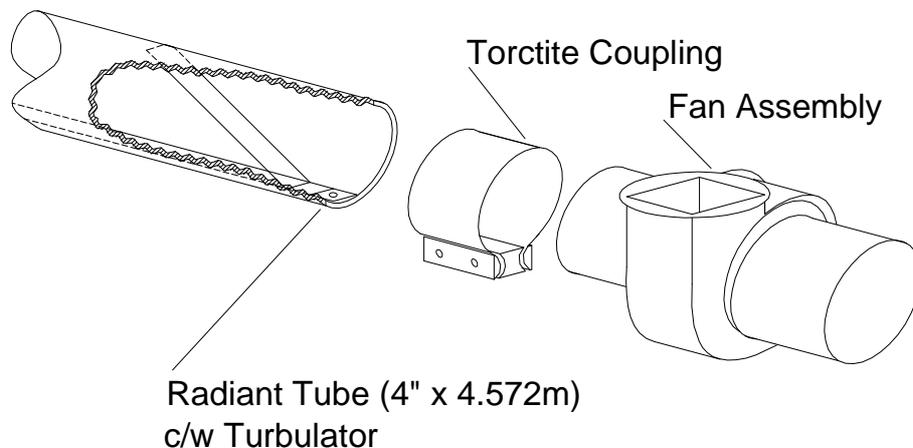

Fig 25
IMPORTANT: ensure that the turbulator is positioned adjacent to the Fan Assy and orientated as shown in Fig. 25. Failure to assemble the Radiant Tubes with their welded seams facing away from the reflector will void the manufacturers warranty.
- 4.8.4 Place a second Torctite Coupling over the end of the Radiant Tube Assembly, where the turbulator is secured to the tube, (see Fig 24 and Fig 25) ensuring that it engages fully, up to the stop. Assemble the Fan Assembly to the Radiant Tube, ensuring that it engages fully into the Torctite Coupling (up to the stop) and is positioned with the fan outlet horizontal for flueless applications or either horizontal or vertical (facing upwards) for flued applications. Tighten the nuts of the Torctite Coupling to secure the Fan Assembly to the Radiant Tube, taking care to support the Fan Assembly in line with the axis of the tube.